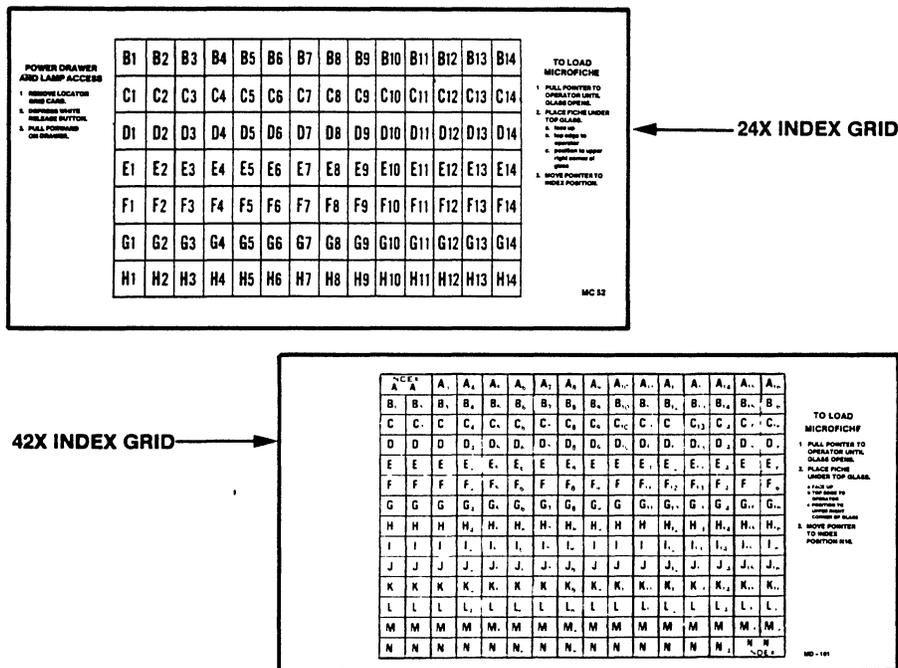

Figure C-4. 24X and 42X Index Grids
6. Select the proper index grid. Each microfiche desk reader is equipped with two index grids, a 24X index grid for 24X microfiche and a 42X index grid for 42X microfiche; most documentation is on 24X microfiche (figure C-4).